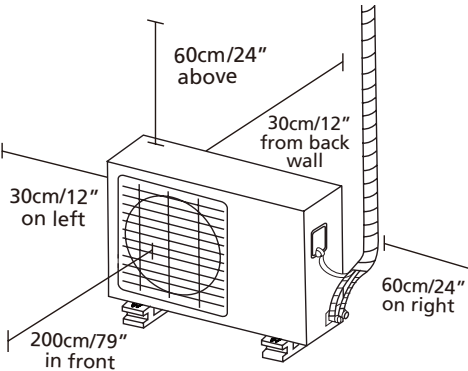

FIG. 4.1
- Meets all spatial requirements shown in Installation Space Requirements (FIG. 4.1).